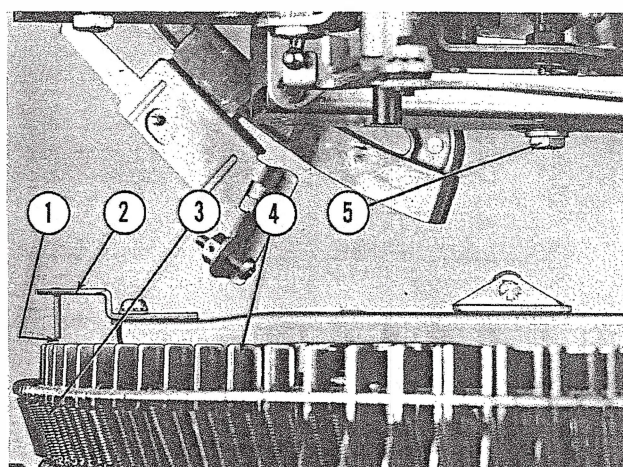

Fig. 41. SELECTOR CRANK CLEARANCE ADJUSTMENT, 2400, 2410
(1) Both tip and bracket assemblies at the ends of the selector crank arms on the 200 and the 100 selector crank arm assemblies should clear the tips of the selector latch pins in their latched position by 1/16" (Fig. 41, Item 1) as the crank arms are rotated. To vary this dimension the screw (Fig. 41, Item 5) may be adjusted. The 100 selection changer has this adjusting screw in the same location but is adjustable from the top end instead of the lower end.